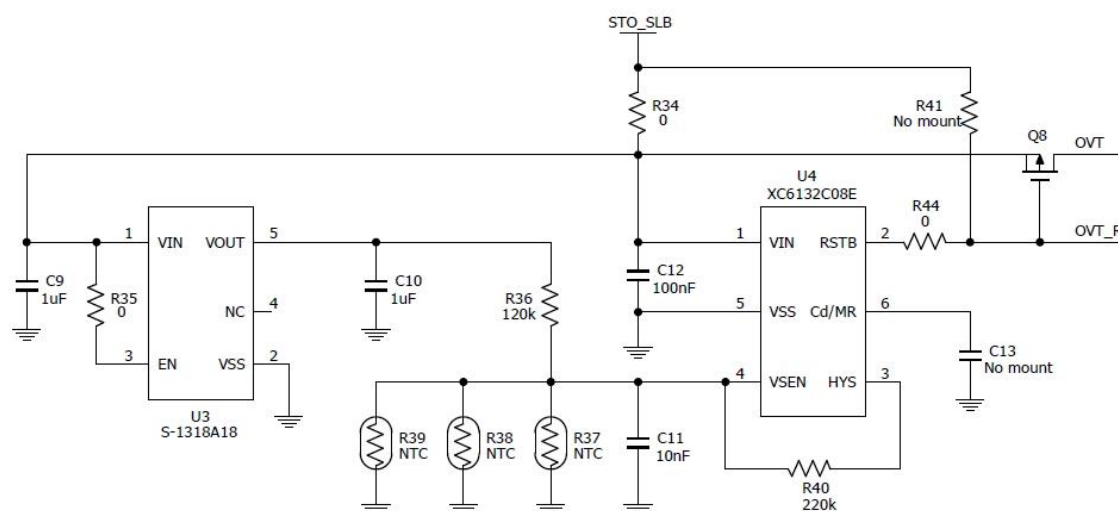

Fig. 4-3-5a Thermal protection circuit
- ◇ This board is equipped with a circuit that stops the circuit operation at high temperatures (approximately over 60 °C ) to protect the SLB series, and that has the configuration shown in Fig. 4-3-5a.
- ◇ Thermal protection starts up when the VSEN terminal of U4 in Fig. 4-3-5a falls below the threshold voltage (0.8V). “OVT” in the figure disables the PMIC charge operation and DC/DC converters. Also “OVT\_R” turns off the MOSFET switch of the SLB direct output to shut off the output. For the DC/DC converter circuit, note that if you set SW9 to always ON, thermal shut down function on the Fig.4-3-5a will be disabled in the circuit.